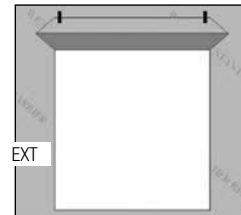

FIG. 3
- Temporarily tape this top flap up. (Fig. 3)